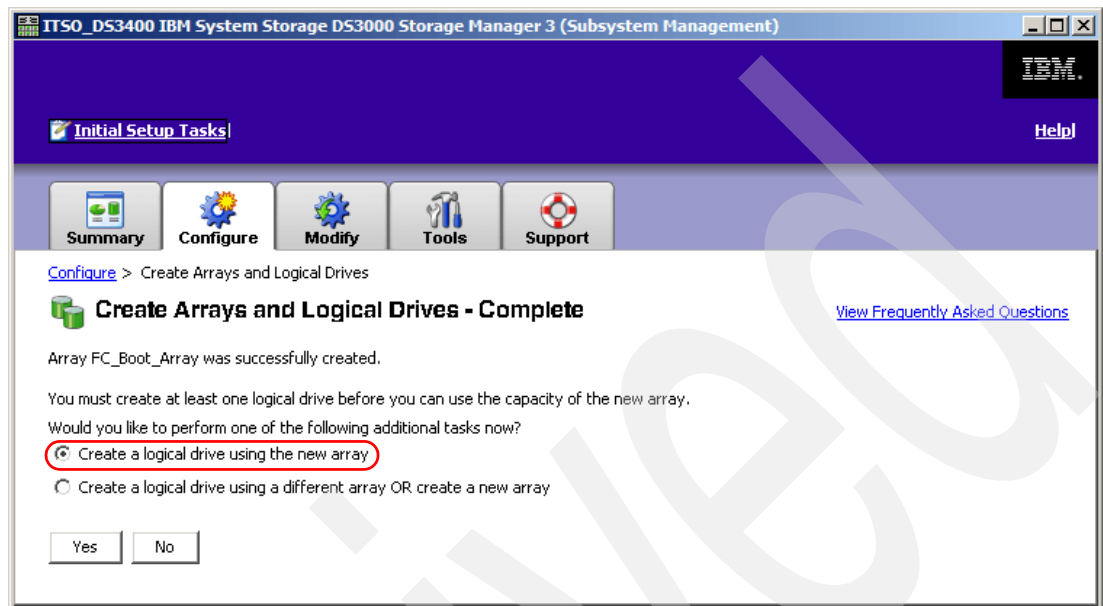

Figure 27-21 Specify Logical Drive
6. A window appears, as shown in Figure 27-21, confirming that the array was completed successfully. We now continue creating the boot volume. Select the **Create a logical drive using the new array** radio button. Click **Yes** to continue.